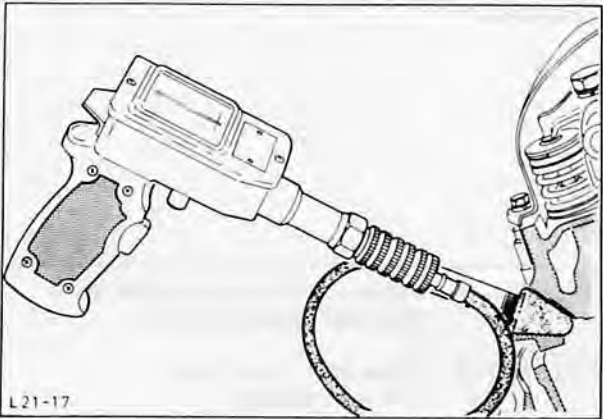

Fig. 7. Compression tester
1. Disconnect HT leads and remove spark plugs. Insert graph paper into tester. Press tester with its rubber seal tightly into spark plug orifice, Fig. 7. With throttle fully open, crank engine with starter motor until pointer of tester rises no further.